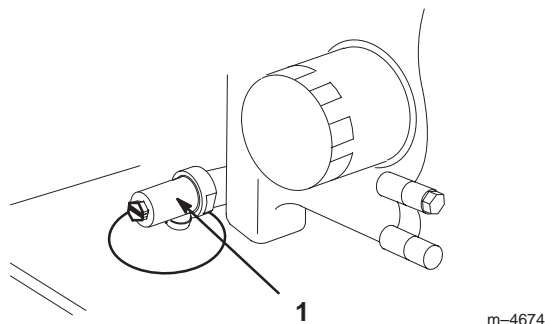

Figure 39
3. Place a pan below the oil drain. Use either a flat screw driver, 3/8 in. wrench or 10 mm wrench to open valve (Fig. 39).
4. Rotate valve end clockwise to close valve. Rotate valve end counterclockwise to open valve (Fig. 39).
5. When oil has drained completely, close the drain valve (Fig. 39).